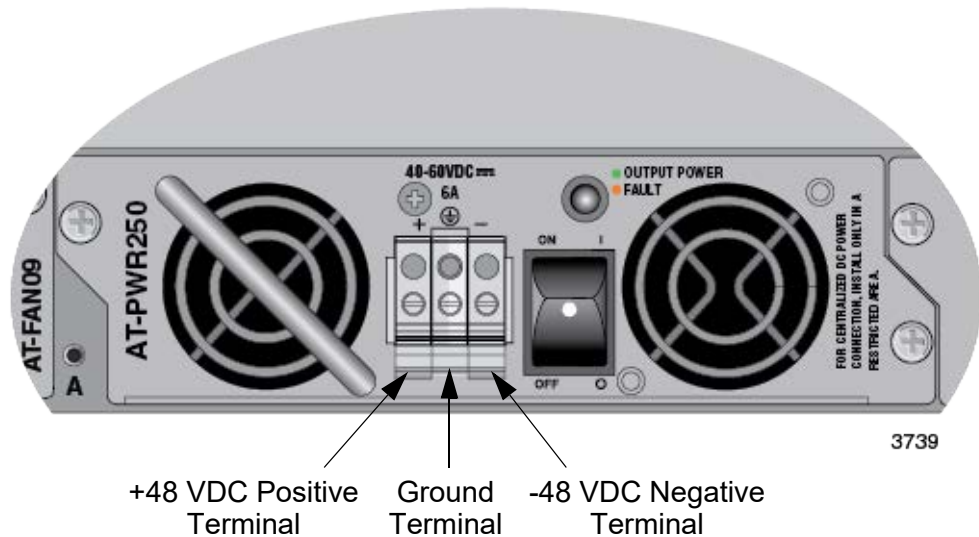

Figure 67. DC Terminal Block
3. Use the legend above the terminal block to identify the terminals. The terminals are **positive**, **power supply ground** and **negative**, from left to right. Refer to Figure 67.